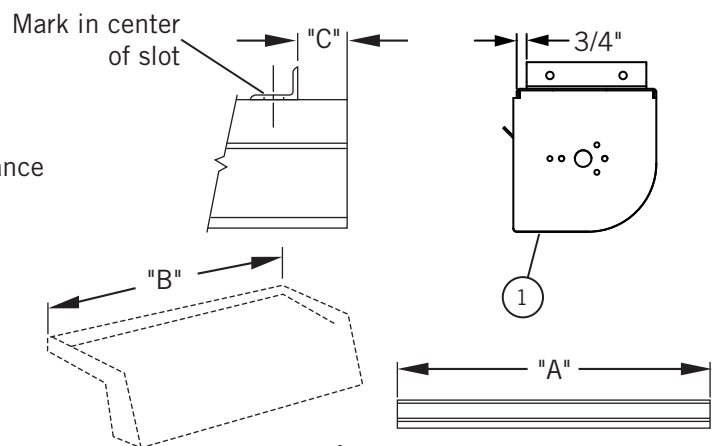

Figure 6-2
- Figure 6-2.** Measure width of housing - dimension "A". Measure width inside of cab shield - dimension "B". Subtract B from A and divide by two to get dimension "C". Turn tarp housing (1) upside down and position steel angle until dimension C is maintained on both ends and mark in center of slotted hole. The slotted holes allow the tarp housing to be moved 1/2" (once mounted) to the left or right if measurements are not exact. Drill marked holes using 17/32" drill bit.